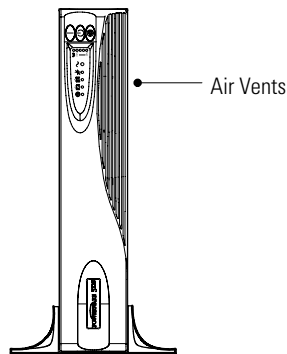

Figure 9. Pedestals with One Cabinet
4. Carefully position the cabinet upright with the air vents at the top (see Figure 9).